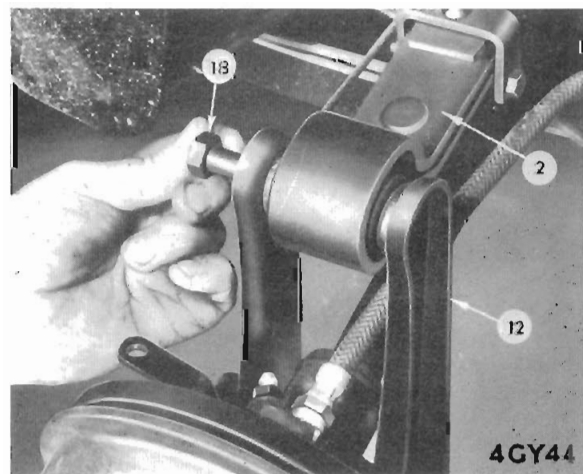

Fig. 56. Removing spring eye bolt
4. Supporting the brake assembly, remove the bolt (18) from the road spring eye Fig. 56. Place brake/axle shaft assembly on a clean bench.